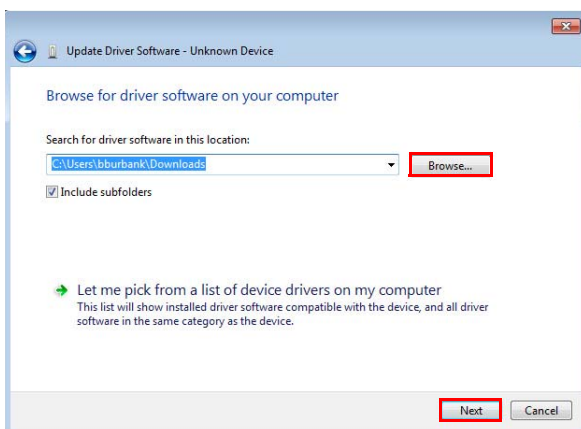

FIG. 172 Update Driver Software - Unknown Device dialog
- In the *Update Driver Software - Unknown Device* dialog, browse for the **APBridge.inf** file and select **Next** (FIG. 172):